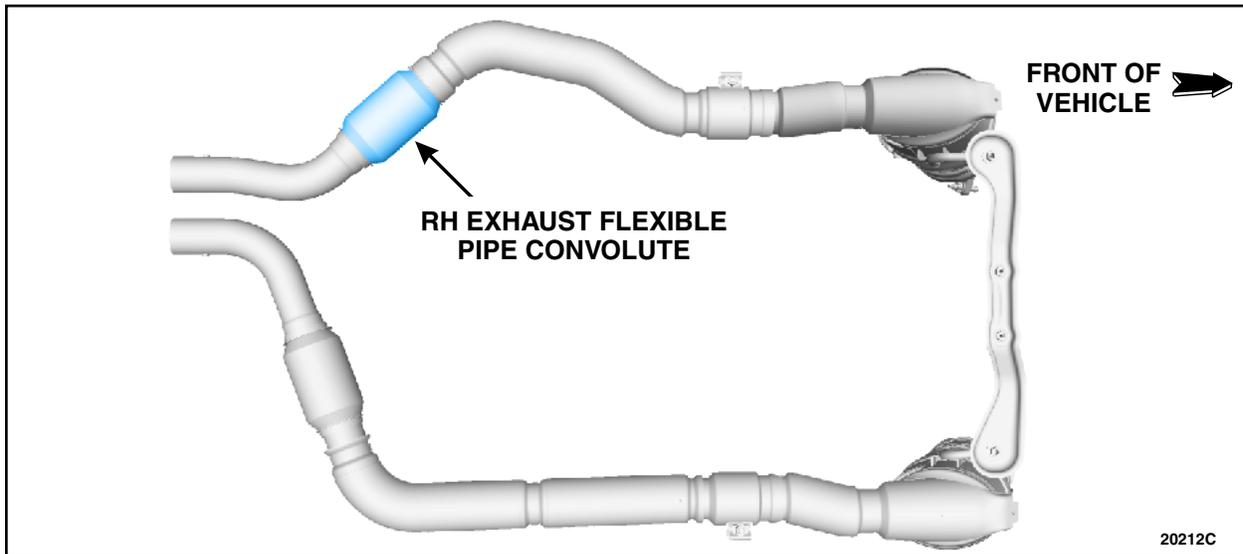

FIGURE 7
4. Inspect the RH exhaust flexible pipe convolute for cracks or leaks. Were any cracks or leaks found at the RH exhaust flexible pipe convolute? See Figures 7 and 8.